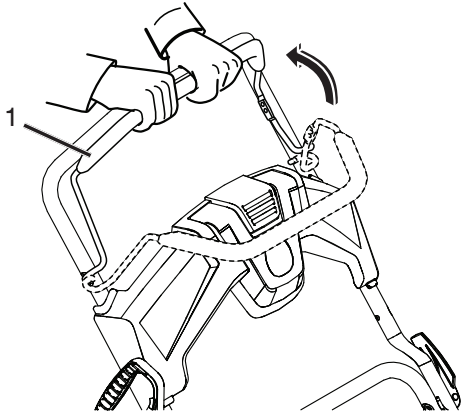

Figure 13
1. To engage the auger blades, hold the control bar against the handle (Figure 13).